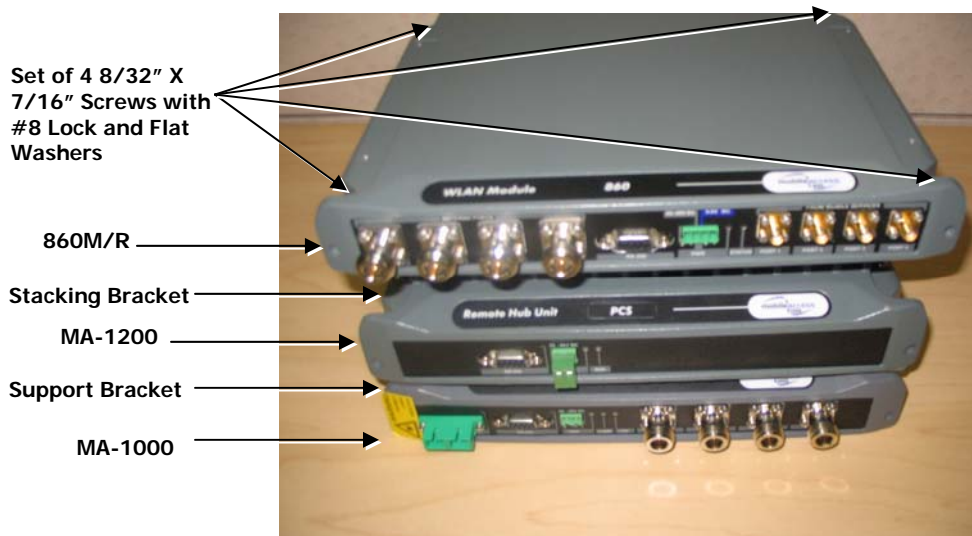

Figure 3-12: 860M/R, MA-1200 and MA-1000 Assembly (Scenario B)
- Stack the 860M/R to the bracket using the four provided screws and connect the MA-1000 RHU to the 860M/R with SMA to N-Type jumper cables (not provided) as shown in **Figure 3-12: 860M/R, MA-1200 and MA-1000 Assembly**. It is recommended to use jumper lengths of 6in, 1ft or 5.5ft based on the relative position of the 860M/R to the RHU.